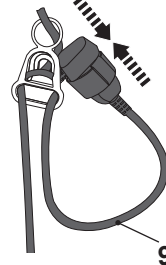

Fig. 6
3. Connect the power cord (9) to the socket of the extension cord (Fig. 6).
4. Make sure the on/off switch (7) is not stayed at ON position.